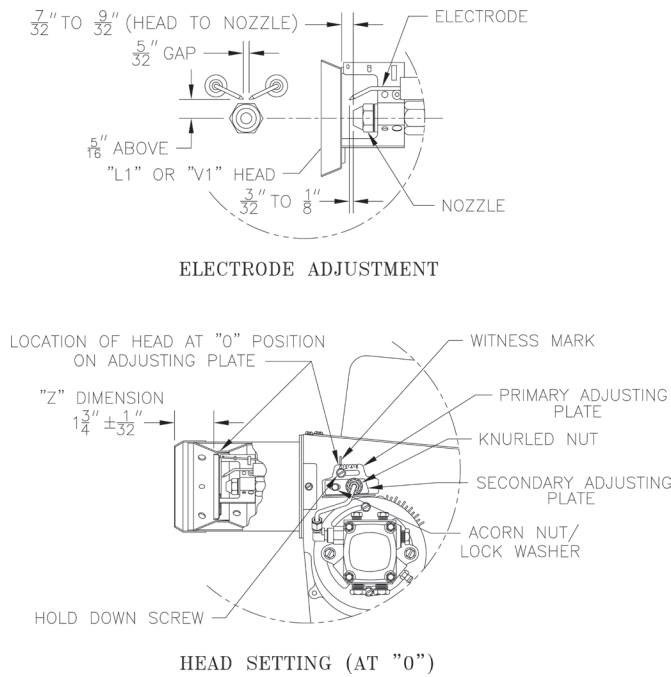

Figure 27: "L1" and "V1" Head Electrode Positioning and Gun Setting (Beckett AFG)
- CL Series boilers are equipped with Beckett AFG burners. Items to be checked are nozzle size, head size, gun setting, and positioning of electrodes. This information is shown in Figure 27 and Table 10 at rear of manual.
- Inspect Beckett head setting on left side of burner by insuring the blue line MD(V1) or the line on the label MB(L1) are aligned, readjust if necessary. Refer to Figure 27.